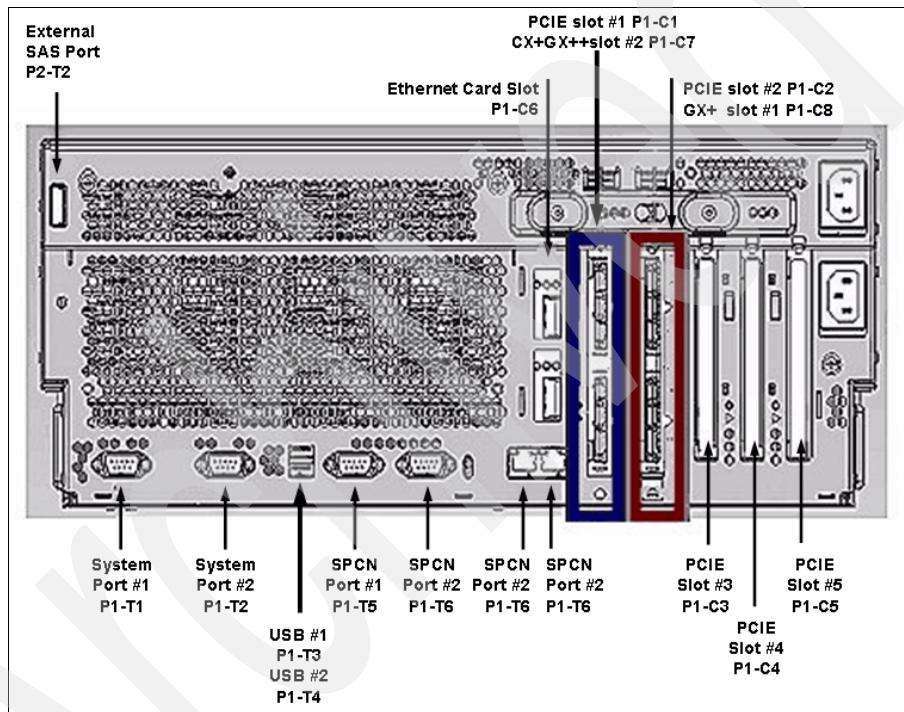

Figure 2-6 Power 550 GX+/GX++ slot locations for HCA
The Power 550 has five I/O expansion slots, two PCIe 8X short-length slots, one PCIe 8X full-length slot, and two PCI-X DDR long slots. The two PCIe short slots are shared with two GX+/GX++ slots, as shown in Figure 2-6. To install IBM GX HCA in Power 550, you should consider the following:
- ▶ If you are installing a GX+ host channel adapter FC 5616, you should install it in slot P1-C8, marked with a red rectangle in Figure 2-6.
- ▶ If you are installing a GX++ host channel adapter FC 5608 or 5609, you should install it in slot P1-C7, marked with a blue rectangle in Figure 2-6.